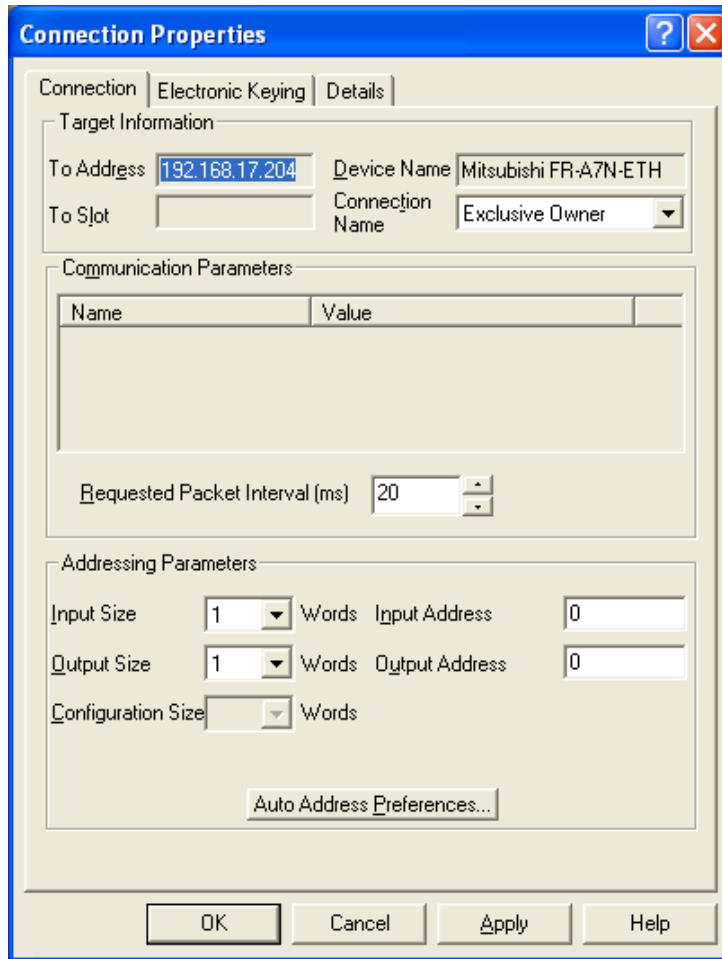

Figure 66: RSNetWorx Connection Properties
b) Select the Mitsubishi FR-A7N-ETH and navigate to Connection...Insert (see Figure 66).